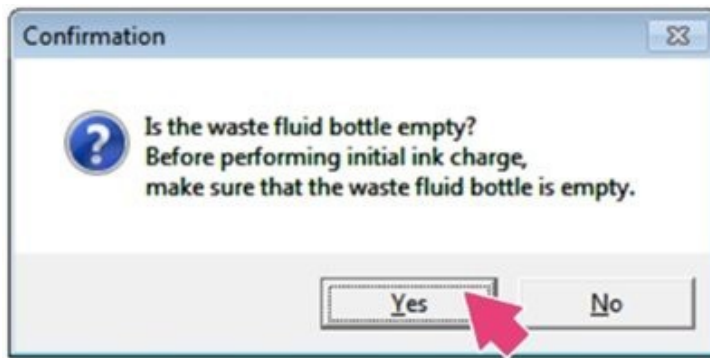

Figure 58
45. To avoid waste tank overflow during the initial ink charge process, the wizard will prompt you to confirm that the waste ink tank has been emptied, if so select **Yes**. See Figure 58.